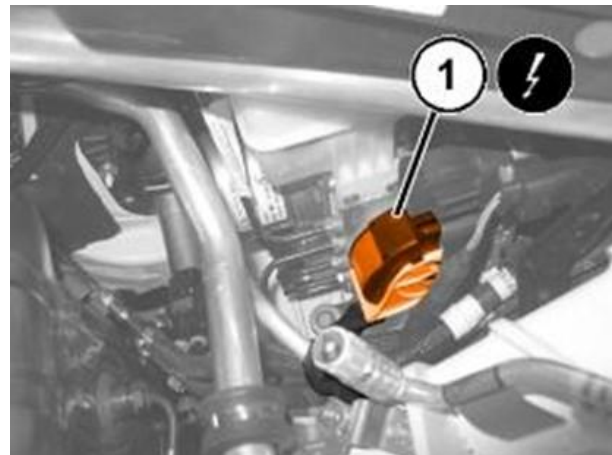

Figure 17 – ABS Electrical Connector
31. Disconnect the electrical connection (1) for the ABS module (Figure 17).